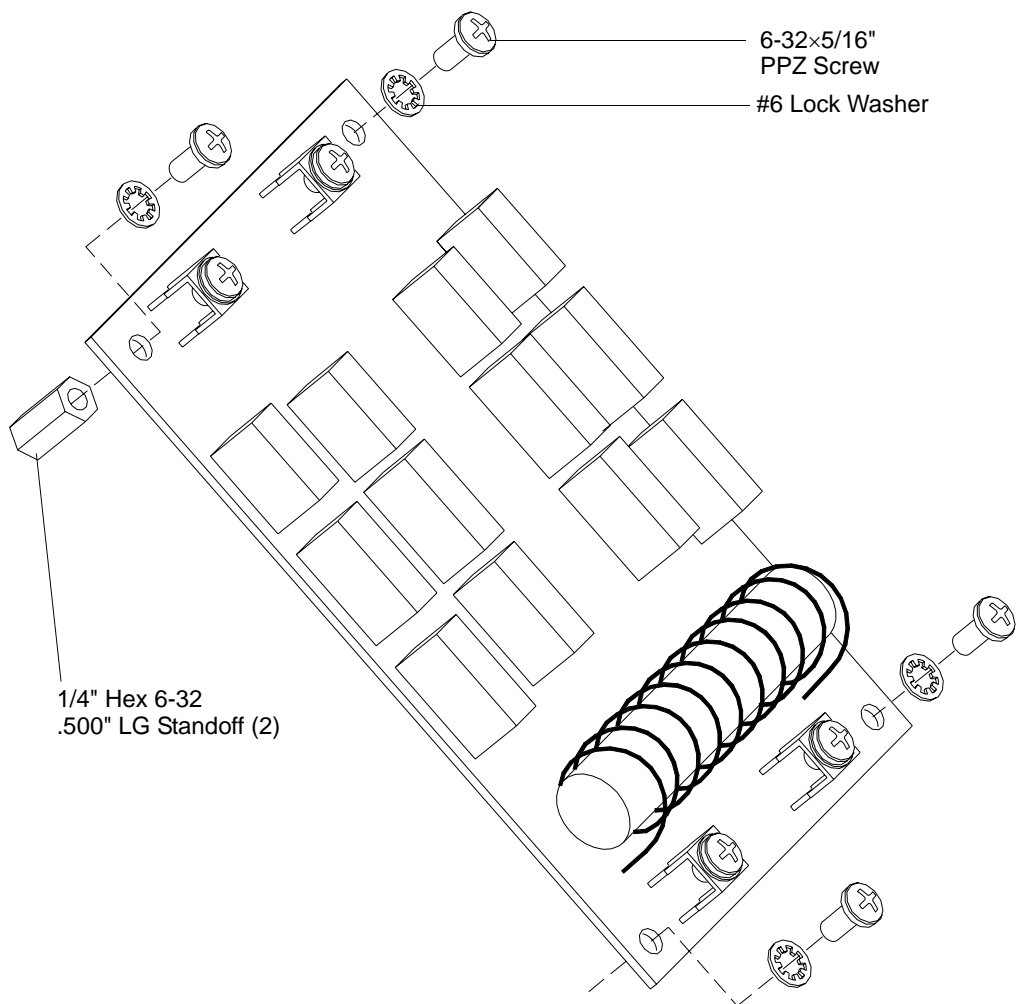

Figure 2-18: Ignitor PCB Standoff Removal
- Step 8. Remove two 1/4" hex standoffs from ignitor PCB by removing one 6-32x5/16" PPZ screw and #6 lock washer. Install in same place on new ignitor PCB. **Figure 2-18.**